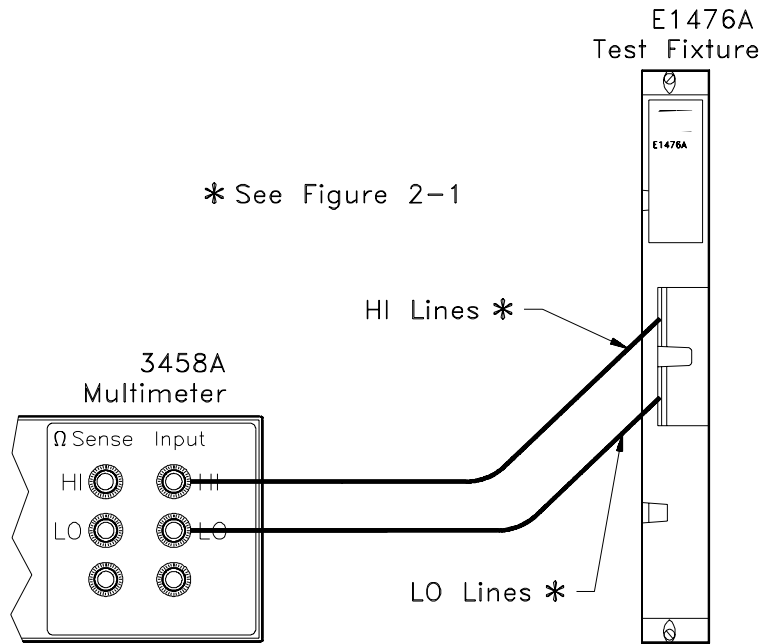

Figure 2-7. DC Isolation Test Connections
1. Hardware Connections (see Figure 2-7)